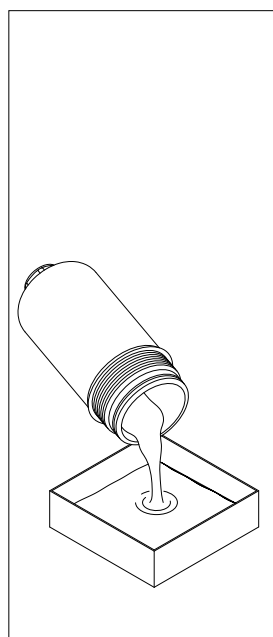

fig. 13
- (Fig. 13) Empty the operating fluid from the bowl into the collection vessel